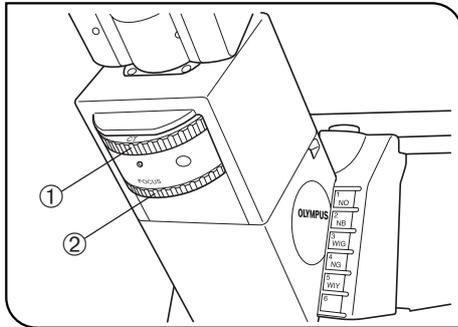

Fig. 52
3 Centering the Phase Contrast Ring Slit (Figs. 52 to 54)
2. When the U-BI90CT binocular observation tube is used, rotate the CT turret ① to position "CT". When the observation tube in use is other than the U-BI90CT, remove an eyepiece and attach the U-CT30 centering telescope in place. (Fig. 52)
4. Rotate the focus ring ② (or the knurled section when the U-CT30 is used) to focus on the ring slit ③ and the phase plate ④ of the objective.
(Figs. 52 & 53)